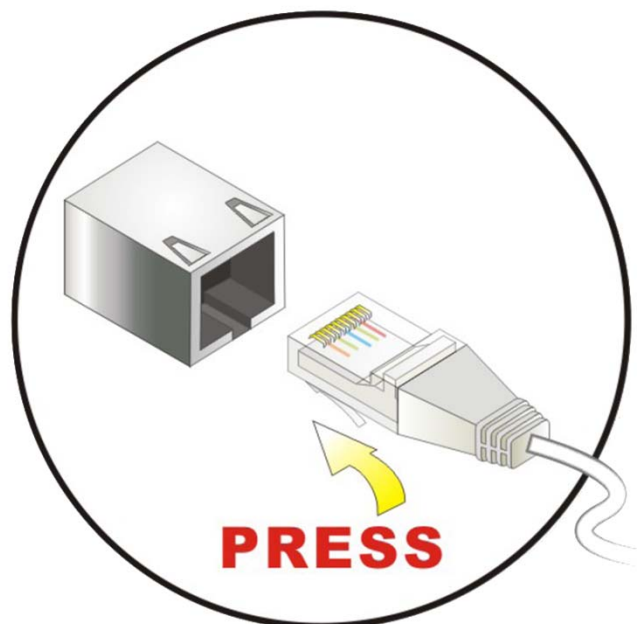

Figure 9 – LAN Connection
Step 2: Align the connector. Align the RJ-45 connector on the LAN cable with the RJ-45 connector on the bottom panel of the DSM800. See **Figure 9**.